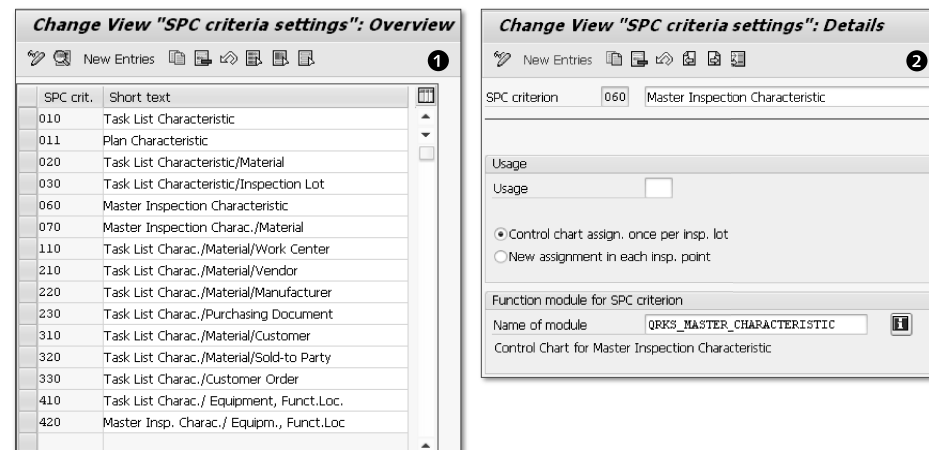

Figure 3.66 SPC Criteria
To navigate to the SPC criteria settings, follow the menu path SPRO • SAP REFERENCE IMG • QUALITY MANAGEMENT • QUALITY PLANNING • BASIC DATA • SAMPLE, SPC • STATISTICAL PROCESS CONTROL • DEFINE SPC CRITERIA. In Figure 3.66 ❶, you'll find several combinations of task list characteristics that align with material, vendor, customer, and even equipment or the functional location of the PM component. Choose SPC CRIT. 10 in ❶, and ❷ appears.